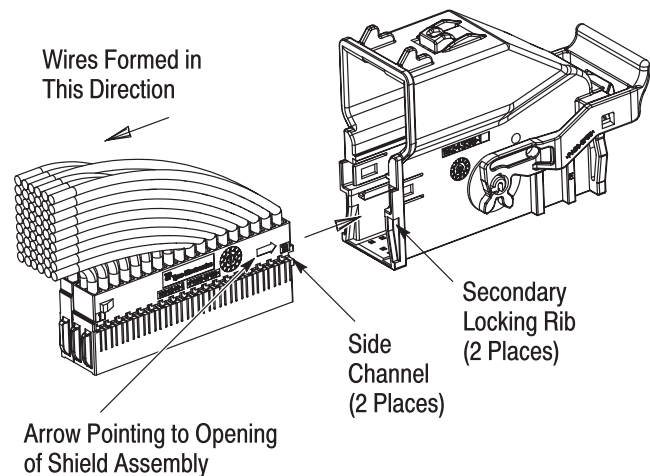

Figure 3
2. Form all wires in the opposite direction that the receptacle carrier will be inserted. Observe the arrows (located on both sides of the receptacle carrier) which indicate the direction of insertion. See Figure 3.
3. Position the receptacle carrier so that the arrows are pointing to the opening of the shield assembly. Align the side channels of the receptacle carrier with the secondary locking ribs of the shield assembly. See Figure 3.